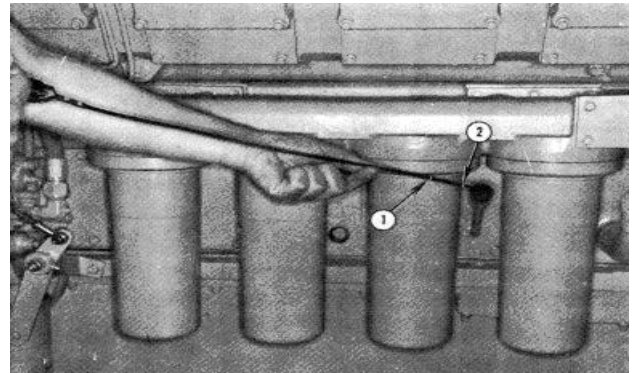

Fig. 2-1, (K21901). Checking engine oil level
1. Check the oil level with the dipstick oil gauge located on the engine. Fig. 2-1. For accurate readings, the oil level should not be checked for approximately 15 minutes after the engine is shut-down.